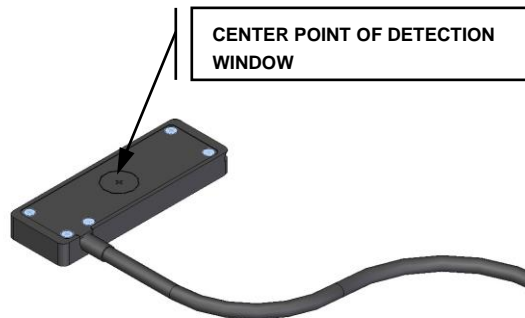

Figure 2: XP750 Bottom View
- 4.3.2 For inverted microscopes, place the XP750 onto the stage with the detection window facing down and approximately centered above the microscope objective lens. The + icon (etched inside a circle) should be facing up (refer to Figure 2) which marks the center of the detection window.